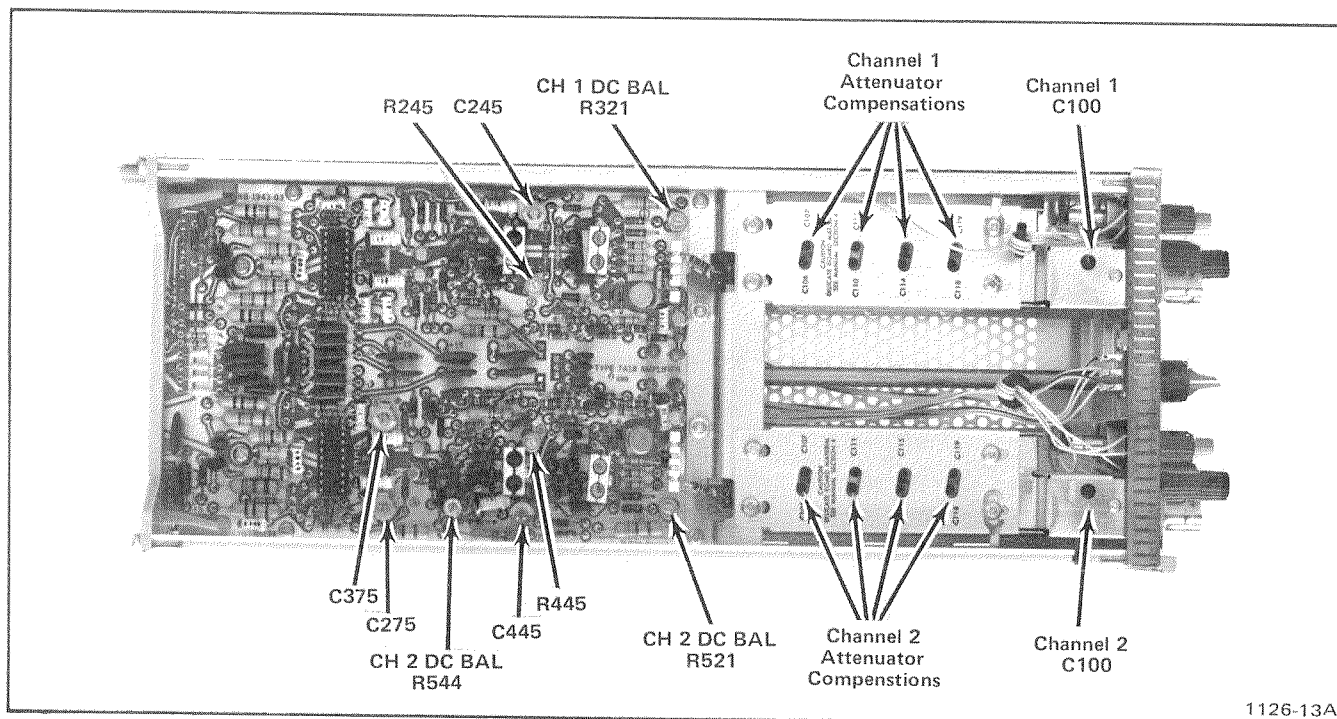

Fig. 5-1. Locations of adjustments used in this procedure. (7A18 shown.)
The locations of the 7A18 adjustments are shown in Fig. 5-1.
- d. ADJUST—Channel 1 DC Balance, R321 for minimum trace shift as the CH 1 VARIABLE control is rotated from fully counterclockwise to fully clockwise. See Fig. 5-1 for adjustment location.
ADJUST—DC BAL, R521, for no trace shift while switching CH 2 POLARITY switch from +UP to INVERT. See Fig. 5-1 for adjustment location.
j. ADJUST—Channel 2 DC Balance, R521 for minimum trace shift as the CH 2 VARIABLE control is rotated from fully counterclockwise to fully clockwise. See Fig. 5-1 for adjustment location.
k. ADJUST—CH 2 VARIABLE DC BAL, R544, for minimum trace shift as the CH 2 VARIABLE control is rotated from fully counterclockwise to fully clockwise. See Fig. 5-1 for adjustment location.
g. ADJUST—Channel 1 C100 for optimum square corner on the displayed waveform (use tuning tool). See Fig. 5-1 for adjustment location.
k. ADJUST—Channel 2 C100 for optimum square corner on the displayed waveform. See Fig. 5-1 for adjustment location.
e. ADJUST—CH 2 attenuator compensations as given in Table 5-2 for optimum square corner and flat top on the displayed waveform (use tuning tool). Re-adjust the generator output at each switch position to provide six divisions of deflection. See Fig. 5-1 for adjustment location.
i. ADJUST—CH 1 attenuator compensations as given in Table 5-2 for optimum square corner and flat top on the displayed waveform. Re-adjust the generator output at each switch position to provide six divisions of deflection. See Fig. 5-1 for adjustment location.
f. ADJUST—C245, R245, and C275, for optimum square-wave response with minimum aberrations. Use the low-capacitance screwdriver to adjust the variable capacitors. Repeat these adjustments until optimum response is obtained. See Fig. 5-1 for adjustment location.
j. ADJUST—C445, R445, and C375, for optimum square-wave response with minimum aberrations. Use the low-capacitance screwdriver to adjust the variable capacitors. Repeat these adjustments until optimum response is obtained. See Fig. 5-1 for adjustment location.